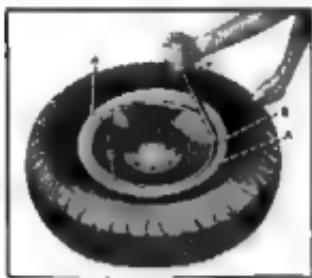

Fig. 64— $\frac{3}{4}$  Ton Tire Installation
6. Place the retainer ring on the wheel rim and start the side of the ring opposite the square notch into the rim gutter, at "C" (fig. 64) making sure the two cutaway portions of the ring rest on the sides of the wheel at "A". Hold the first portion of the ring in the rim gutter and pry the remaining portion over the wheel rim. To pry the last portion into place, insert the tire iron in the notch "B", thus putting tension on the ring, and tap the ring with a hammer until it drops into place.